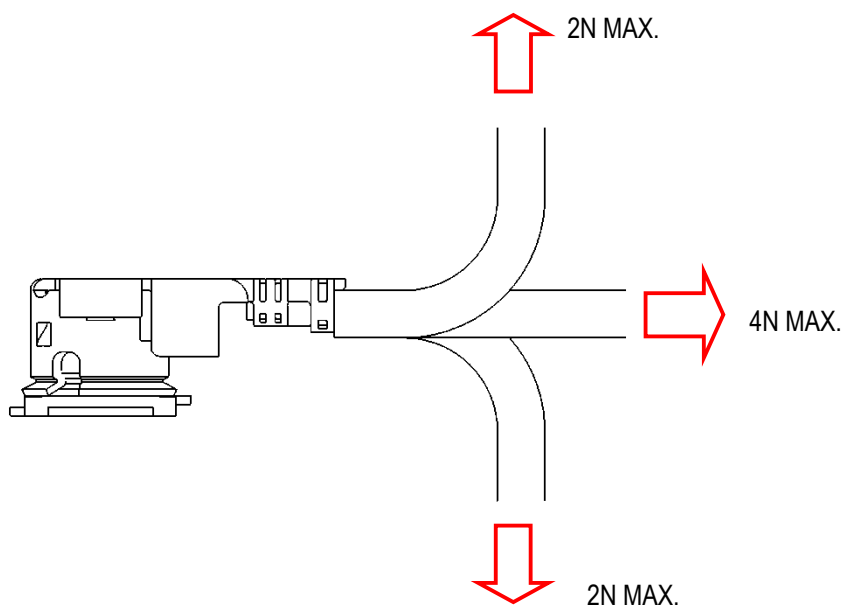

Fig.12
- In the case of figure 12, it has possibility to damage to the housing and come off from rece. connector.